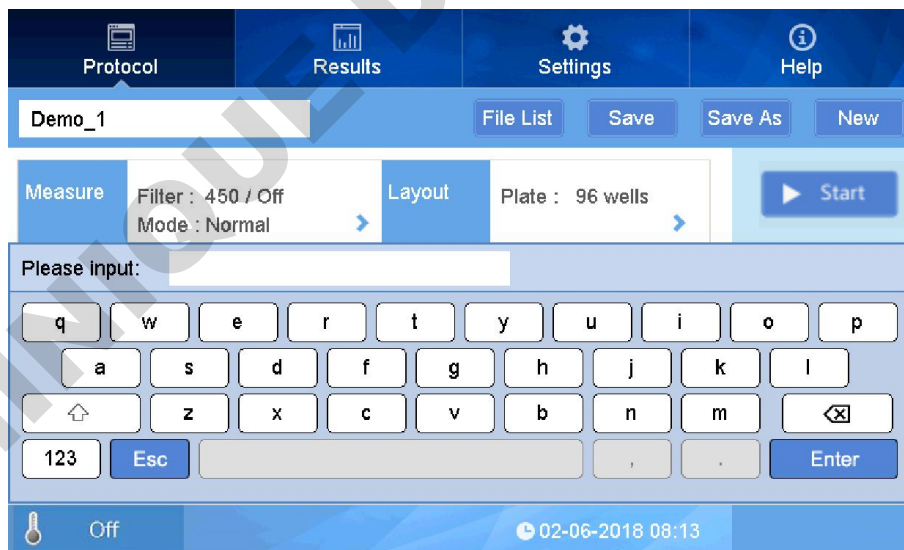

fig 10
- Click “▶ Start” on the screen or “Start” button on the front panel to start the running(Fig 10).